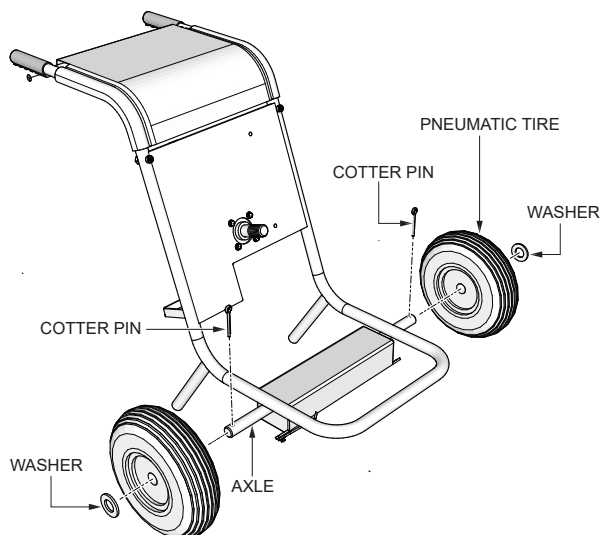

Figure 6. Wheel Installation
2. Position wheels over axle, install washers, secure with cotter pins Figure 6.